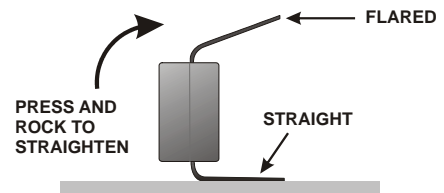

Figure 2. Straightening I.C. Pins.
- Place U1 on the board where shown by the outline near the bottom center. If the pins are spread too wide to fit, place U1 on its side on a solid, flat surface and rock it gently to bend all the pins inward slightly as shown in Figure 2. Do the same on both sides until it fits into the solder pads on the board.